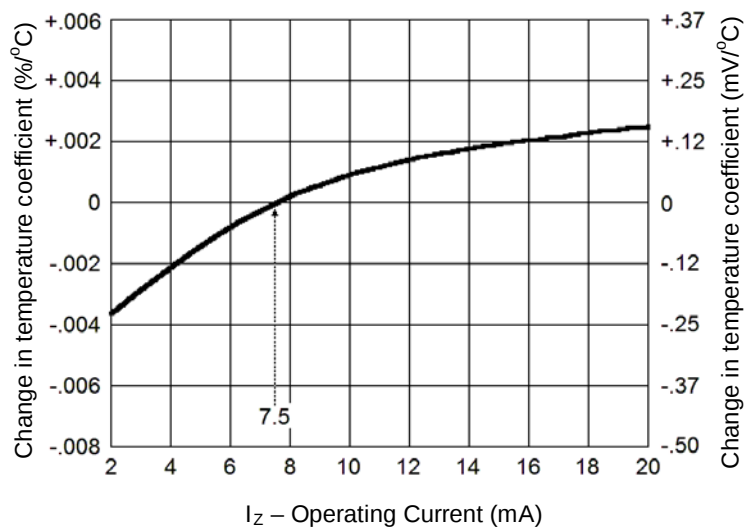

FIGURE 3
The curve shown in Figure 3 is typical of the diode series and greatly simplifies the estimation of the Temperature Coefficient (TC) when the diode is operated at currents other than 7.5 mA.
EXAMPLE: A diode in this series is operated at a current of 7.5 mA and has specified Temperature Coefficient (TC) limits of $\pm 0.005\%/^{\circ}\text{C}$. To obtain the typical Temperature Coefficient limits for this same diode operated at a current of 6.0 mA, the new TC limits (%/°C) can be estimated using the graph in FIGURE 3. At a test current of 6.0 mA the change in Temperature Coefficient (TC) is approximately $-0.0006\%/^{\circ}\text{C}$. The algebraic sum of $\pm 0.005\%/^{\circ}\text{C}$ and $-0.0006\%/^{\circ}\text{C}$ gives the new estimated limits of $+0.0044\%/^{\circ}\text{C}$ and $-0.0056\%/^{\circ}\text{C}$.
In conjunction with Figure 3, this curve can be used to estimate total voltage regulation under conditions of both varying temperature and current.